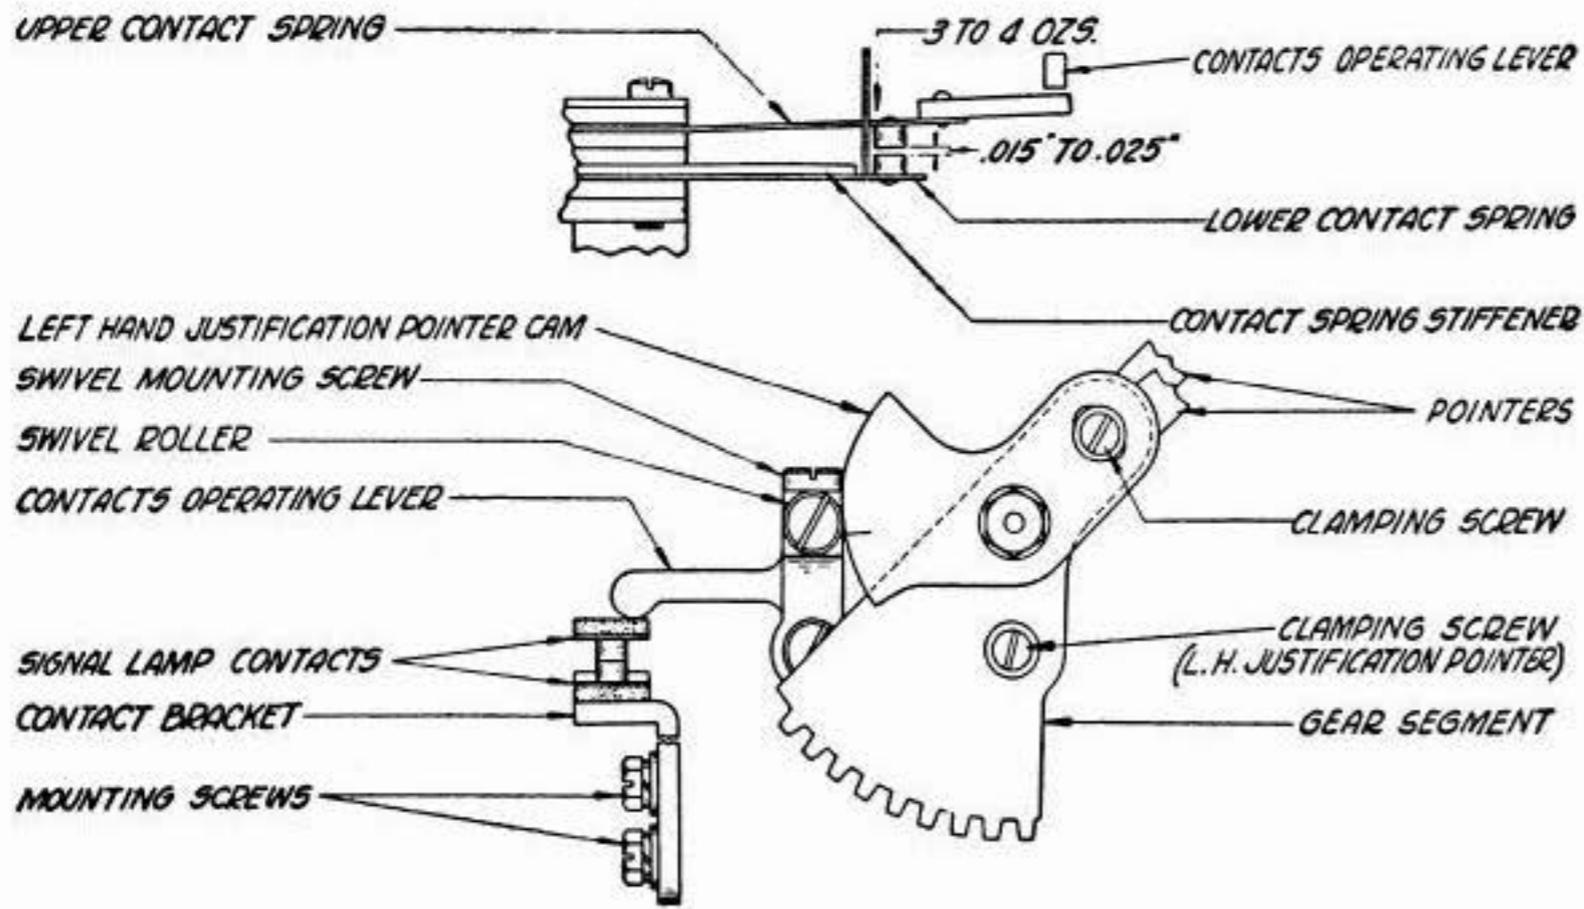

Fig. 26
- (1) To adjust, position the left-hand pointer by means of the clamping screw which fastens the left pointer to its gear segment. **Fig. 26**
(b) With the push end of a scale applied to the lower-contact spring, near the contact point, it should require a push of Min 3 oz, Max 4 oz, as indicated in Fig. 26, to start the spring moving away from its stiffener.
(1) To adjust, remove the spring from the contact assembly, and bend. **Fig. 26**
(c) There should be a clearance of Min $.015''$, Max $.025''$, as indicated in Fig. 26 between the contact points of the upper and lower contact springs when the contacts-operating lever clears the bakelite tip on the upper contact spring.
(1) To adjust, bend the upper contact spring. **Fig. 26**
(d) With the left and right pivot-adjusting blocks approximately in the centers of their adjustments, and the justification pointers advanced five spaces, position the contacts bracket so that when the counting pointer is moved from the left to the right, the lamp will light when the counting pointer is approximately four scale divisions to the left of the justification pointer. **Connect the perforator power plug.** **Fig. 26**